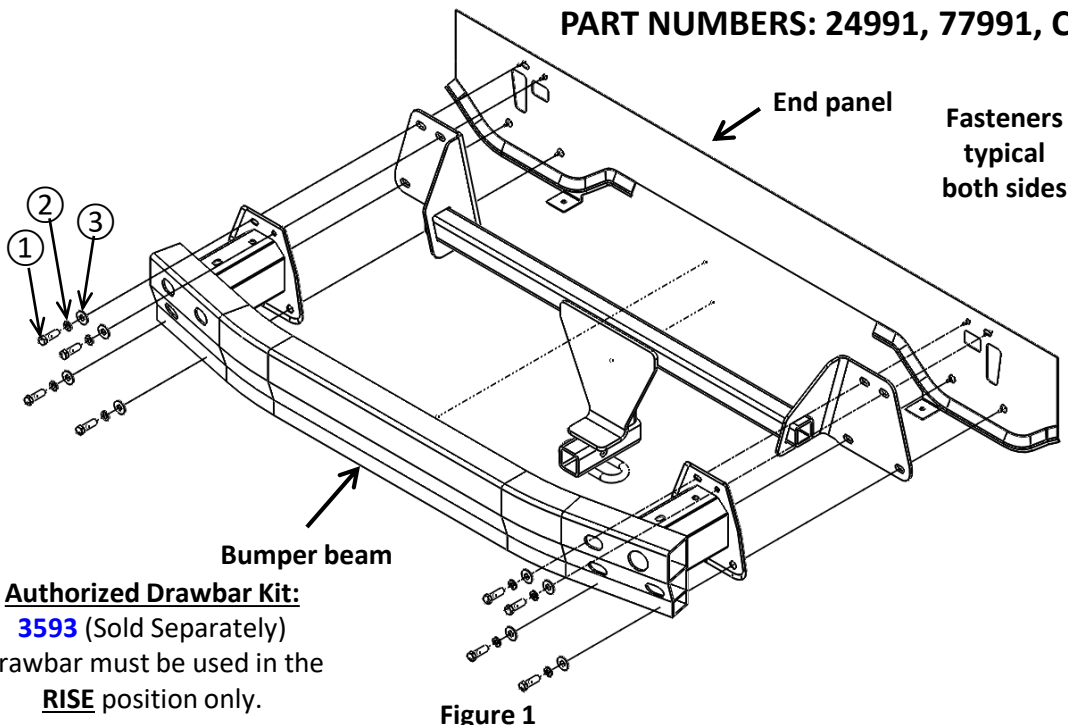

Figure 2
- 1. Remove (2) plastic underbody panels** – using a flat head screwdriver, remove (4) plastic push pin rivets and loosen (1) threaded fasteners from the driver's side panel located near wheel well area. Remove (4) push pin rivets and loosen (1) threaded fastener from the passenger's side panel.
- 2a. Remove lower fascia** - using a flat head screwdriver, remove (4) plastic push pin rivets from the lower fascia. 1 is located on both the driver and passenger side along with the remaining 2 near the center of the fascia. **See Figure 2.**
1. **Remove (2) plastic underbody panels** – using a flat head screwdriver, remove (4) plastic push pin rivets and loosen (1) threaded fasteners from the driver's side panel located near wheel well area. Remove (4) push pin rivets and loosen (1) threaded fastener from the passenger's side panel.
2a. **Remove lower fascia** - using a flat head screwdriver, remove (4) plastic push pin rivets from the lower fascia. 1 is located on both the driver and passenger side along with the remaining 2 near the center of the fascia. **See Figure 2.**